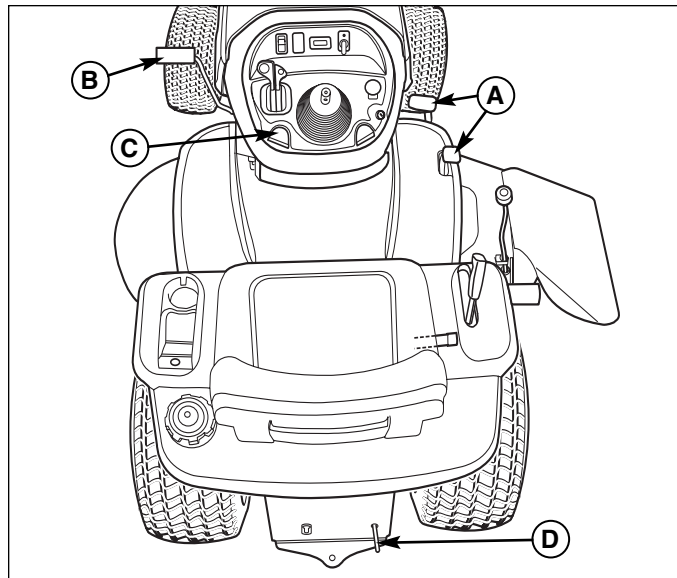

Figure 1. Engaging the Parking Brake
3. Hold brake pedal down (B, Figure 1) and push down on parking brake knob (C) to release parking brake.
4. Place hydro release lever in the PUSH position by pulling the release lever handle (D) back until it locks in the released position.